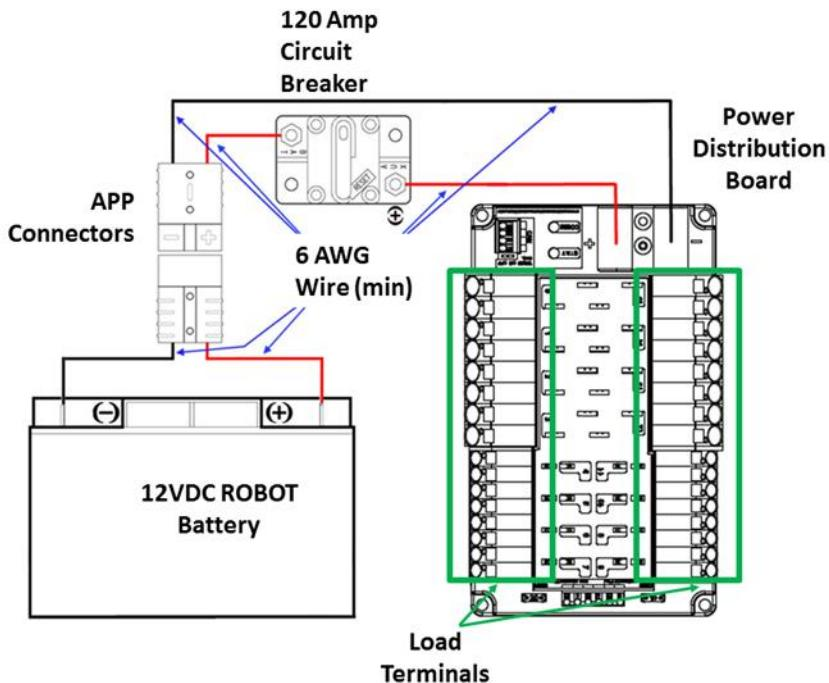

Figure 9-9 Electrical connection diagram
**R40.** The one (1) ROBOT battery, a single pair of Anderson Power Products (or APP) 2-pole SB type connectors, the one (1) main 120-amp (120A) surface mount circuit breaker (Cooper Bussman P/N: CB185-120, CB185F-120, CB285-120), and the one (1) CTR Electronics Power Distribution Panel (PDP, P/N: am-2856, 217-4244, 14-806880) shall be connected with 6 AWG (7 SWG or 16 mm2) copper wire or larger, with no additional devices or modifications, as shown in Figure 9-9.
**R41.** All circuits, with the exceptions of those listed in R46 and R48, must connect to, and have power sourced solely by, a single protected 12VDC WAGO connector pair (i.e. the Load Terminals, as shown in Figure 9-9) of the one (1) CTR Electronics Power Distribution Panel, not the M6 cap screws.